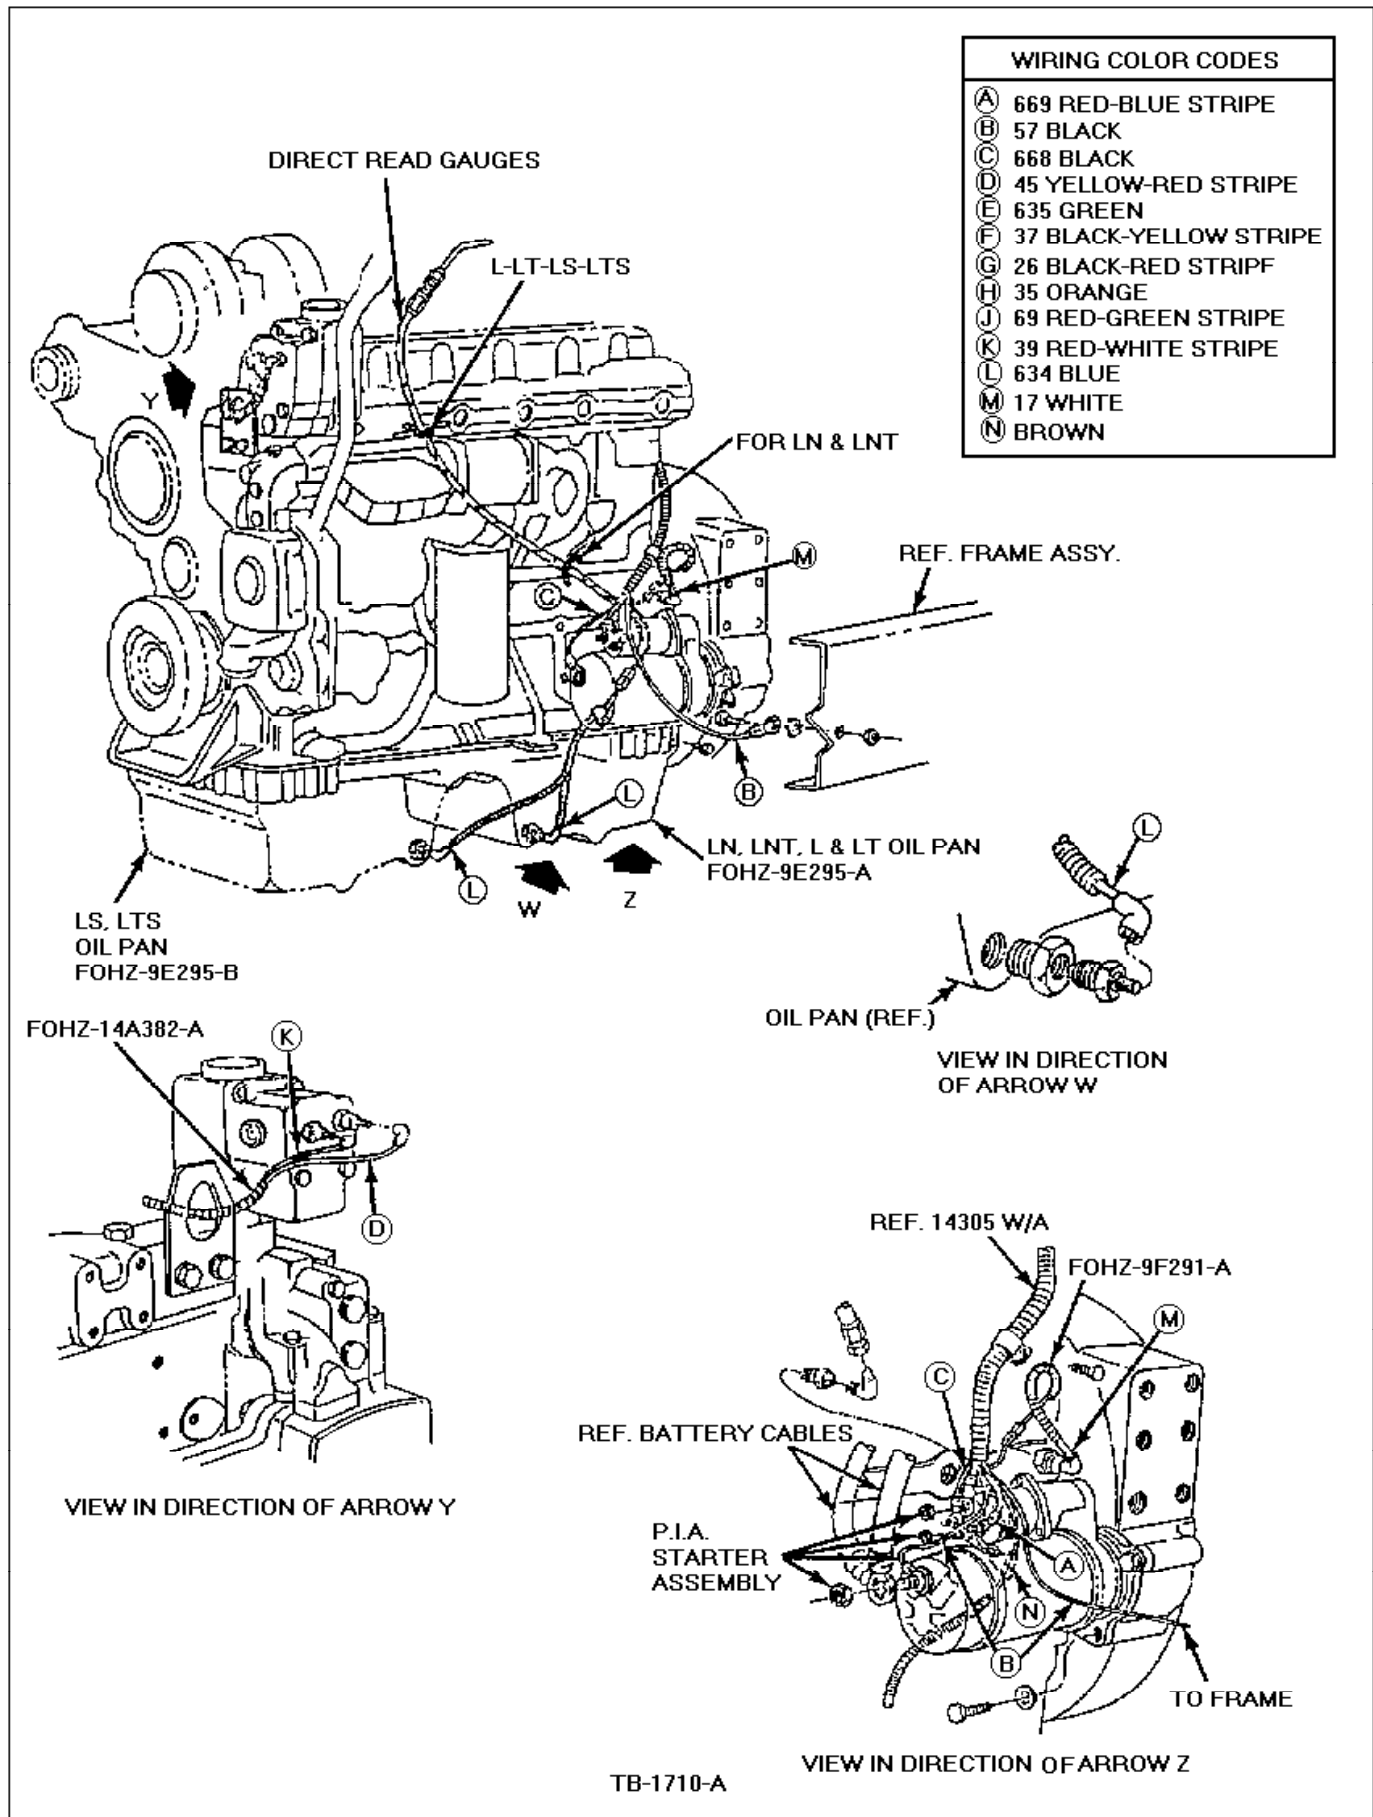

Figure 1 - Article 90-17-13
- Figures 1 & 2 detail the installation of the harnesses to the engine.